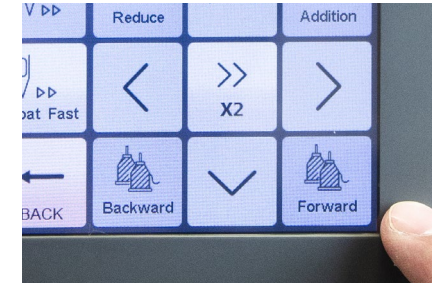

Figure 100
2. To fast forward by color stop, click on the Forward key. To rewind by color stop, click on the Backward key. **See Figure 100.**